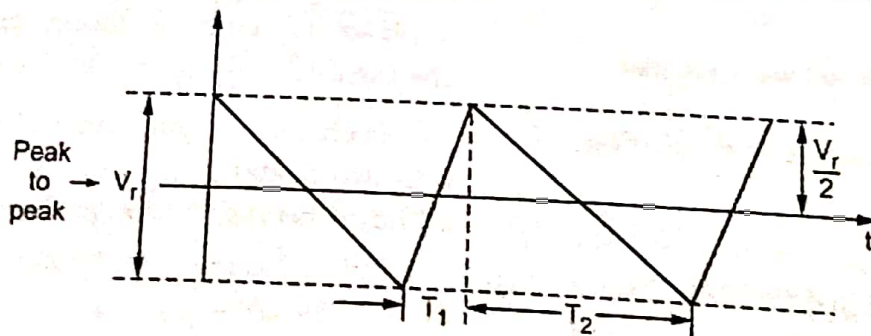

Fig. Q.27.1
Ans.: • Consider an output of full wave rectifier using capacitor filter as shown in the Fig. Q.27.1.
• The Fig. Q.27.1 shows triangular approximation of ripple voltage.